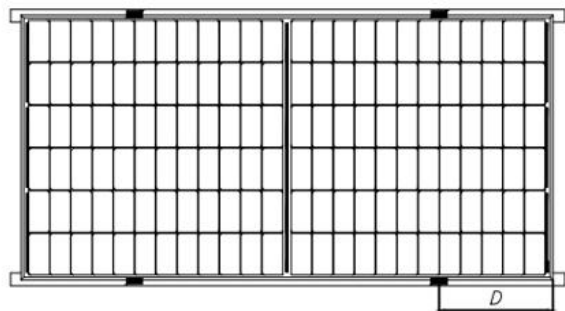

Fig.3 Rails overlapping the long-side frame
When PV modules are installed, each PV module must be fixed with at least 4 presses, as shown in Figures 3 、 4、 5、 6.
⑩ For the mounting shown in Figure 3, the overlap between the C surface of the module and the rail should be $\geq 25\text{mm}$. Sunplus's limited warranty will be void if improper clamps or improper installation is used.